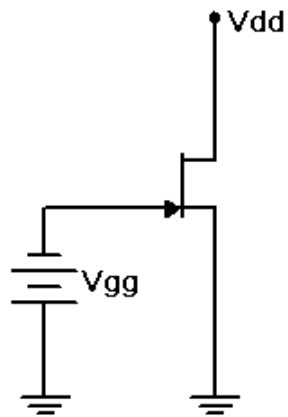

Figure 15.1
1. Consider the circuit of Figure 15.1 using  $V_{dd} = 15$  volts and  $V_{gg} = 0$  volts. With nothing else in the circuit, the resulting drain current should equal  $I_{DSS}$ . Similarly, if  $V_{gg}$  is gradually changed to a value negative enough to drop the drain current to zero,  $V_{gg}$  must be equal to  $V_{GS(OFF)}$ .
2. Build the circuit of Figure 15.1 using  $V_{dd} = 15$  volts and  $V_{gg} = 0$  volts. Insert an ammeter in the drain and record the resulting current in Table 15.1. Slowly increase the magnitude of  $V_{gg}$  (i.e., make it more negative) until the drain current drops to zero (as a practical point, try to get it under  $10 \mu\text{A}$ , or as low as the ammeter will allow). Record this voltage in Table 15.1. Repeat this process for the other two transistors. Be sure not to confuse the JFETs. Keep them in order.